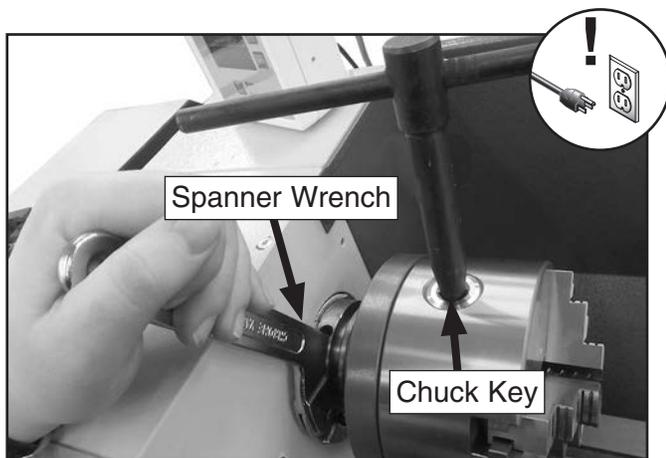

Figure 28. Location to insert spanner wrench and chuck key when removing chuck.
4. Insert chuck key and spanner wrench as shown in **Figure 28**, then while holding the spindle, unthread the chuck in a counter-clockwise direction.